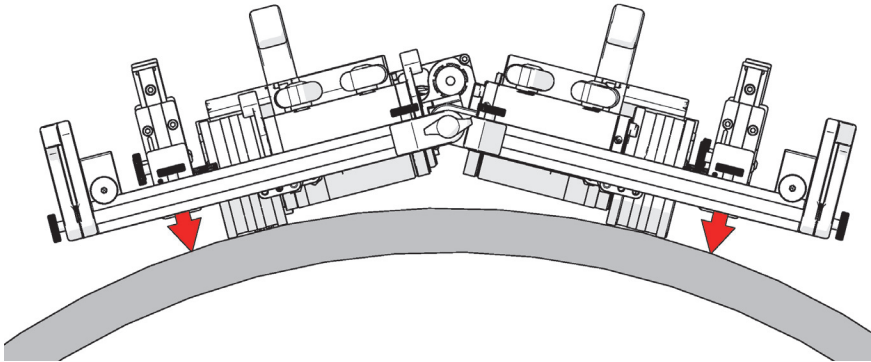

Figure 2-114 Tighten pivot wing knobs
2. Lower the left side of the frame system to align with the tangent of the scan surface, and then tighten the pivot wing knobs (see Figure 2-114 on page 136).